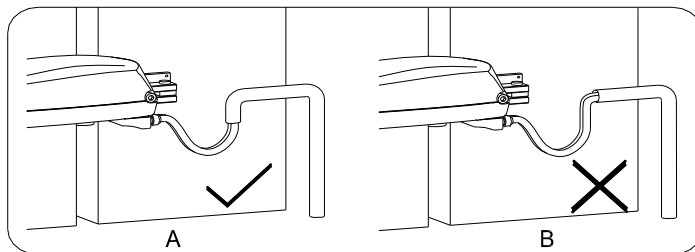

Fig.14
- In order to protect the wires, between the gate operator and the control box, armored cable, galvanized cable or PVC conduit must be set into the concrete when it is poured. To prevent rainwater from entering into the cable, arrange the cable as show in Fig.14-A.